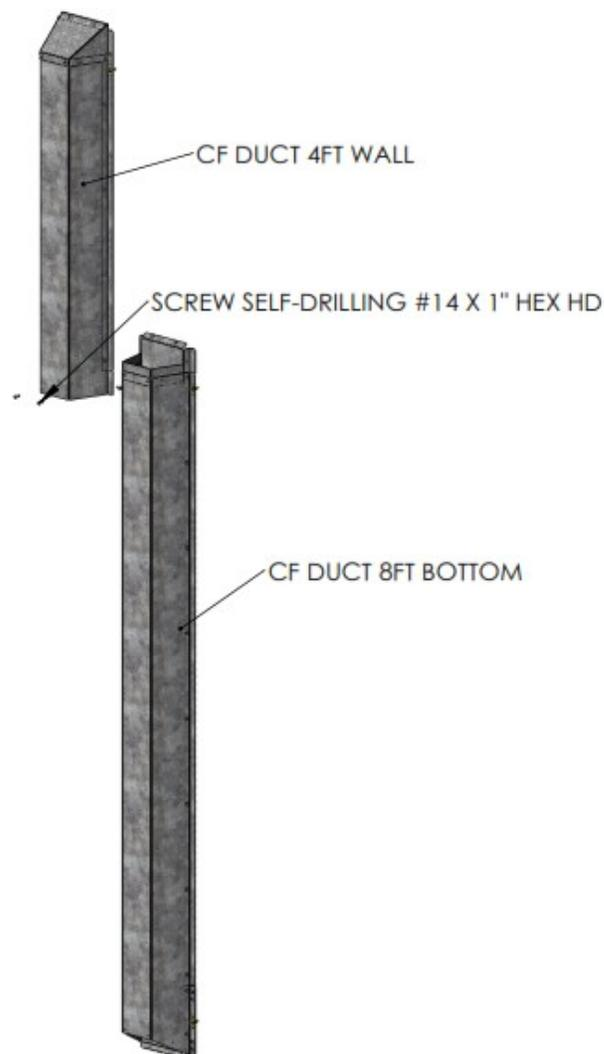

Figure 3.4.3: Wall Column Assembly
1. See Figure 3.4.3 below. Join the pre-assembled upper column assembly to the lower column assembly using 4=SELF-DRILLING SCREWS (per joint).